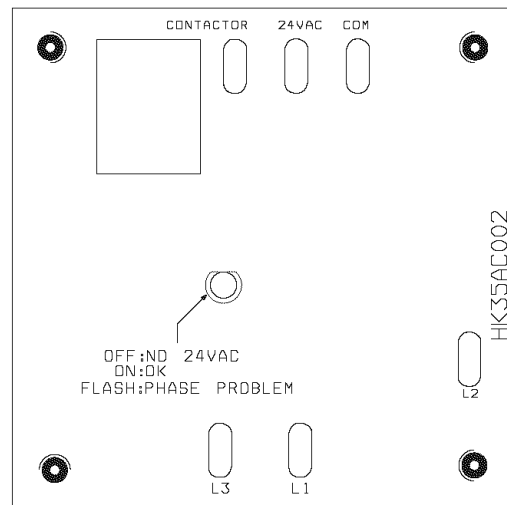

Fig. 9 – 3-Phase Monitor Control
- A flash LED on phase monitor indicates reverse rotation. (See Fig. 9 and Table 3)